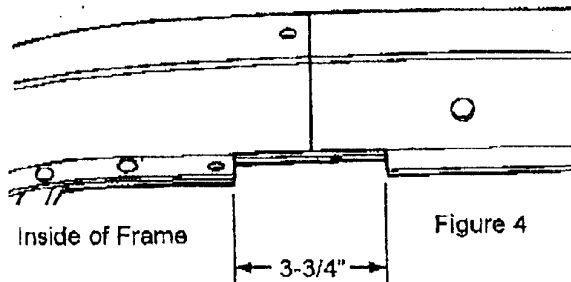

Figure 4
5. The flange on the inside of the frame rails must be trimmed away in the area of the new center crossmember. Trim off the flange for a 3-3/4" length, 1-7/8" in front and 1-7/8" in back of the centerline mark. (See Figure 4.)